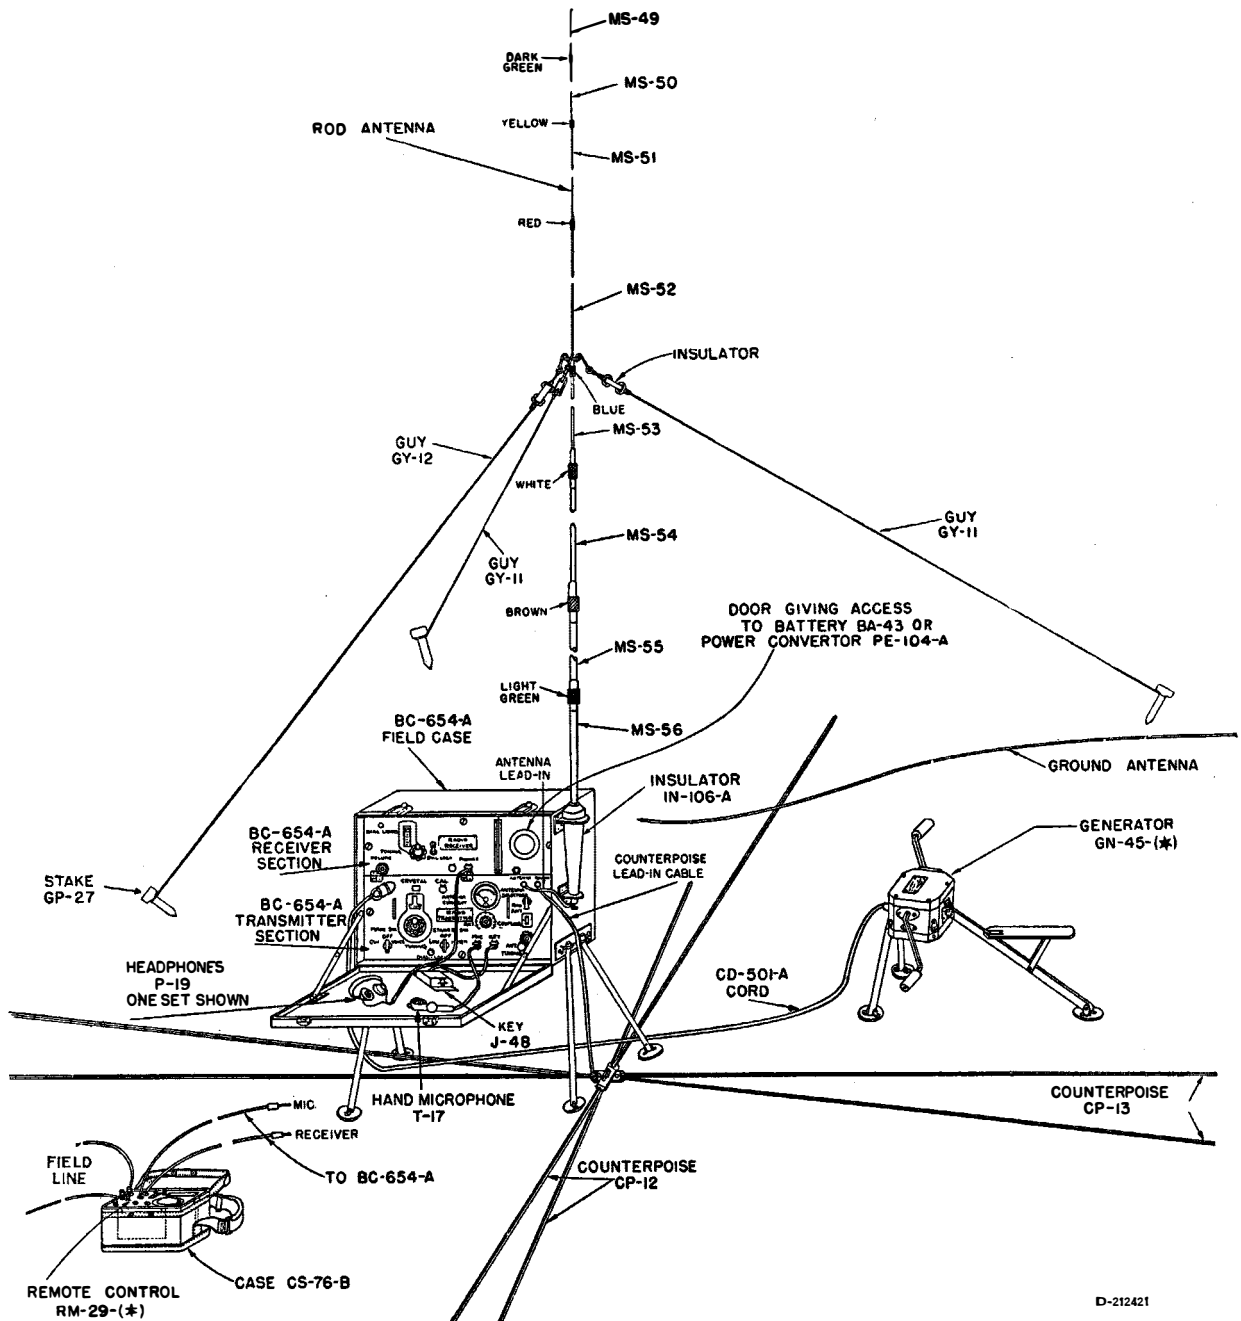

FIG. 8. RADIO SET SCR-284-A—FIELD INSTALLATION COMPONENTS
g. *Antennas:*— (FIG. 8)
- (1) Unroll Counterpoise CP-12, placing together the two wires which are on each end of junction, and lay them on the ground in opposite directions. (Sketch a.) Junction of wires must be placed on the ground directly under right end of Transmitter-Receiver Case. (See Figure 8.)
- (2) Unroll Counterpoise CP-13 similarly except crosswise to CP-12.
- (3) Using screw and wing nut on CP-12, fasten the two junctions together. (See Sketch b.)
- (4) Spread wires equally apart—"star shape." Note: SCR-284-A may be operated using only Counterpoise CP-12 (the one with lead-in wire attached), with wires spaced equally in four